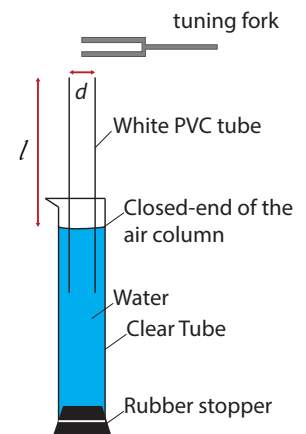

Fig. 5 Apparatus setup
l = length (meters) of the closed tube (Fig. 5) when resonance occurs
5. **Fill the tube with water as shown in Fig. 5.** The water should be near the top but not overflowing.
6. **Place the white PVC tube in the water (Fig. 5).**
8. **Hold the vibrating tuning fork as shown in Fig. 5.** It is important to keep the vibrating tuning fork directly over the opening of the PVC tube.
11. **Measure the length l (centimeters) and record in the worksheet.** Note: the length l is the distance from the top of the white PVC tube to the top of the water (Fig. 5).
14. **Measure d (Fig. 5) and record on the worksheet.**